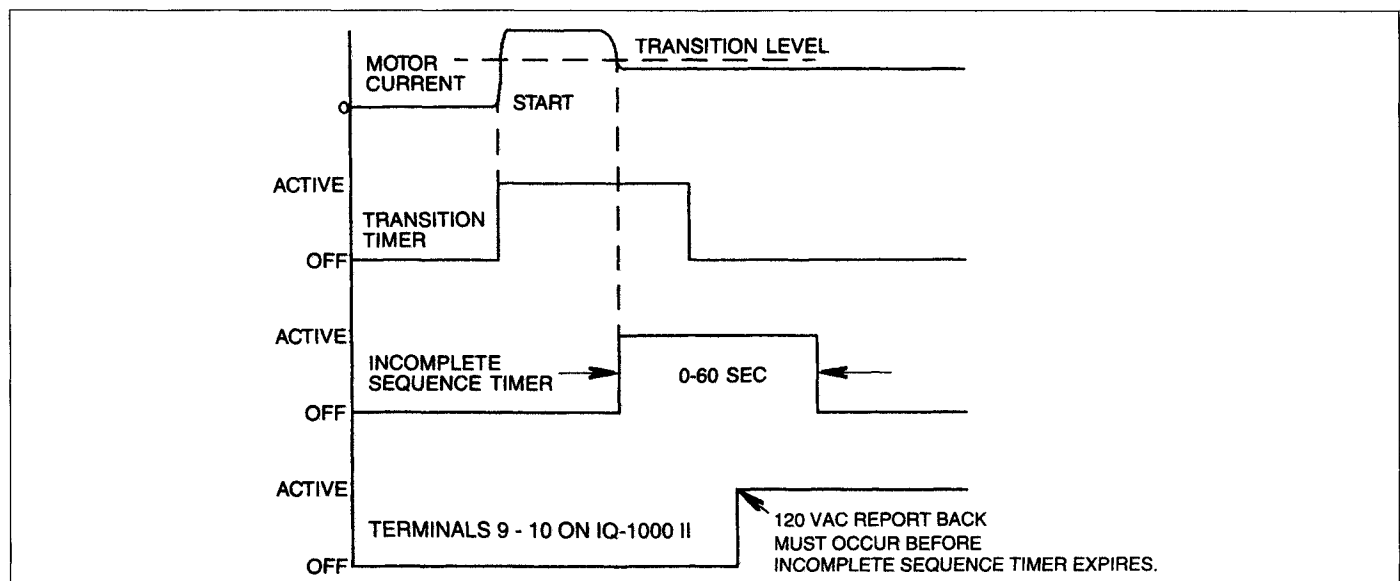
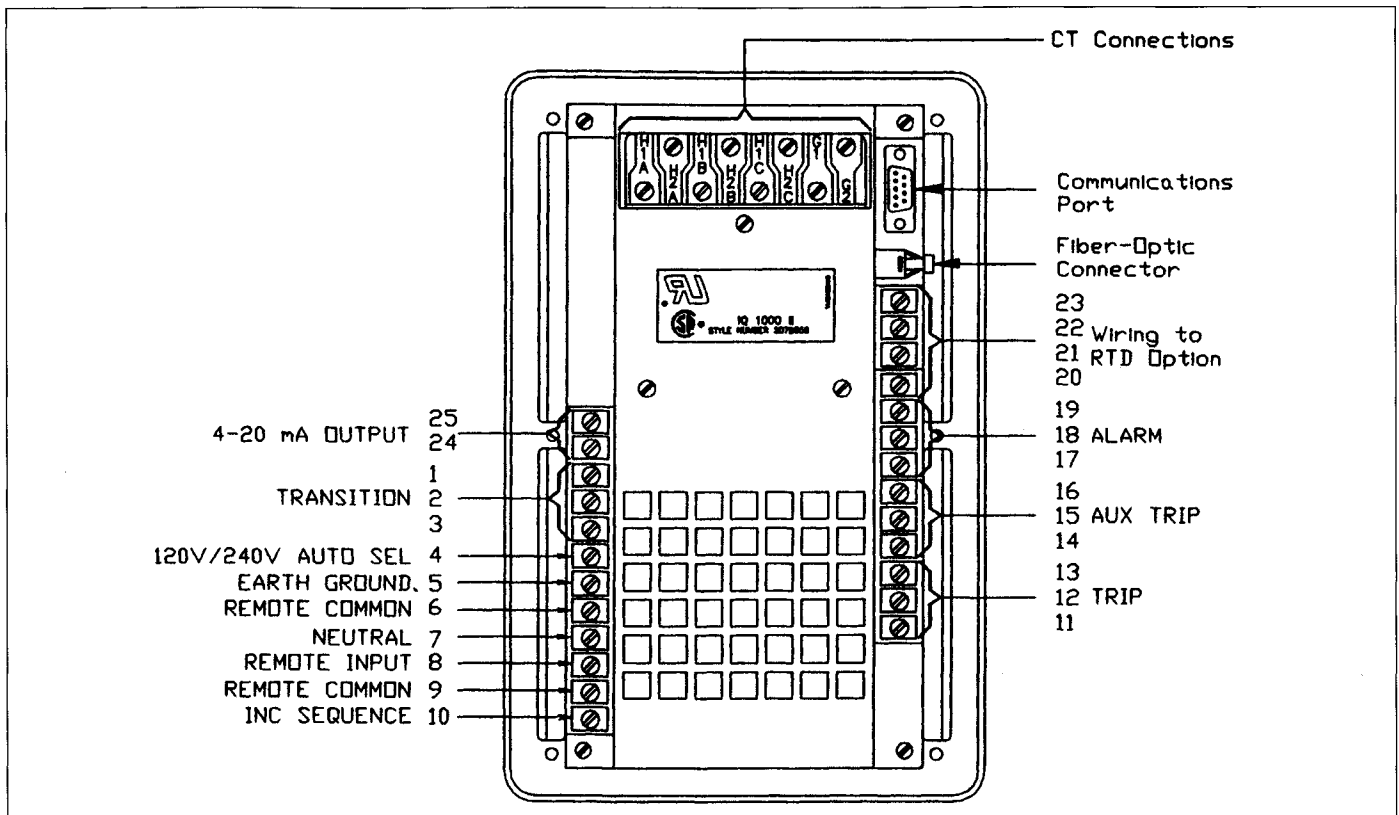

Fig. 8.2 Incomplete Sequence Timing
Fig. 8.3 IQ-1000 II Terminals
10, see Figure 8.3). As the IQ-1000 II enters the RUN mode, the incomplete sequence timer starts its count. If the timer runs out (i.e., the time programmed at menu item 40 expires) before 120 VAC has been received across terminals 9 and 10, then the IQ-1000 II will generate a trip condition and will display the message "INC SEQ." If 120 VAC is received at terminals 9 and 10 before the timer runs out, the IQ-1000 II will acknowledge the signal, and the 120 VAC is no longer monitored. The timing cycle of events is shown in Figure 8.2.
SIGNAL — The IQ-1000 II provides a 4-20 mA analog output signal at terminals 23 and 24 on the rear of the IQ-1000 II (see Figure 8.3). This signal can be input into an ammeter or programmable controller for external manipulation of parameters monitored by the IQ-1000 II.
— The IQ-1000 II has one programmable form-C relay, the Auxiliary Trip relay. This relay can be programmed to activate only on certain trip conditions. This relay is labeled as terminals 14, 15 and 16 on the rear of the IQ-1000 II (see Figure 8.3). The following trip states can be programmed for the Auxiliary Trip relay: